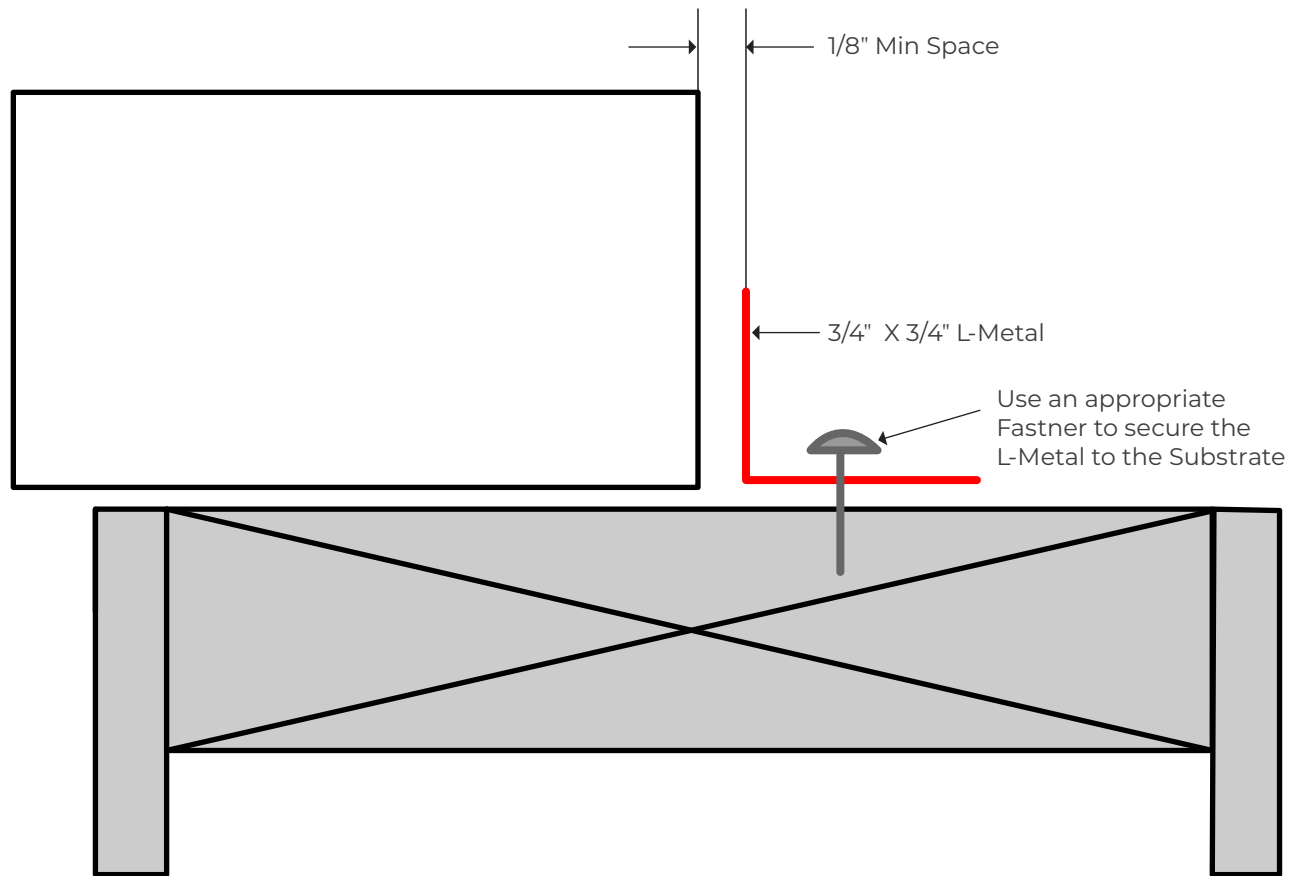

Fig. 19
- Install 3/4" x 3/4" aluminum L-metal the full length of the sill as the raised leg of the liquid applied flashing pan. **See Fig. 19.**